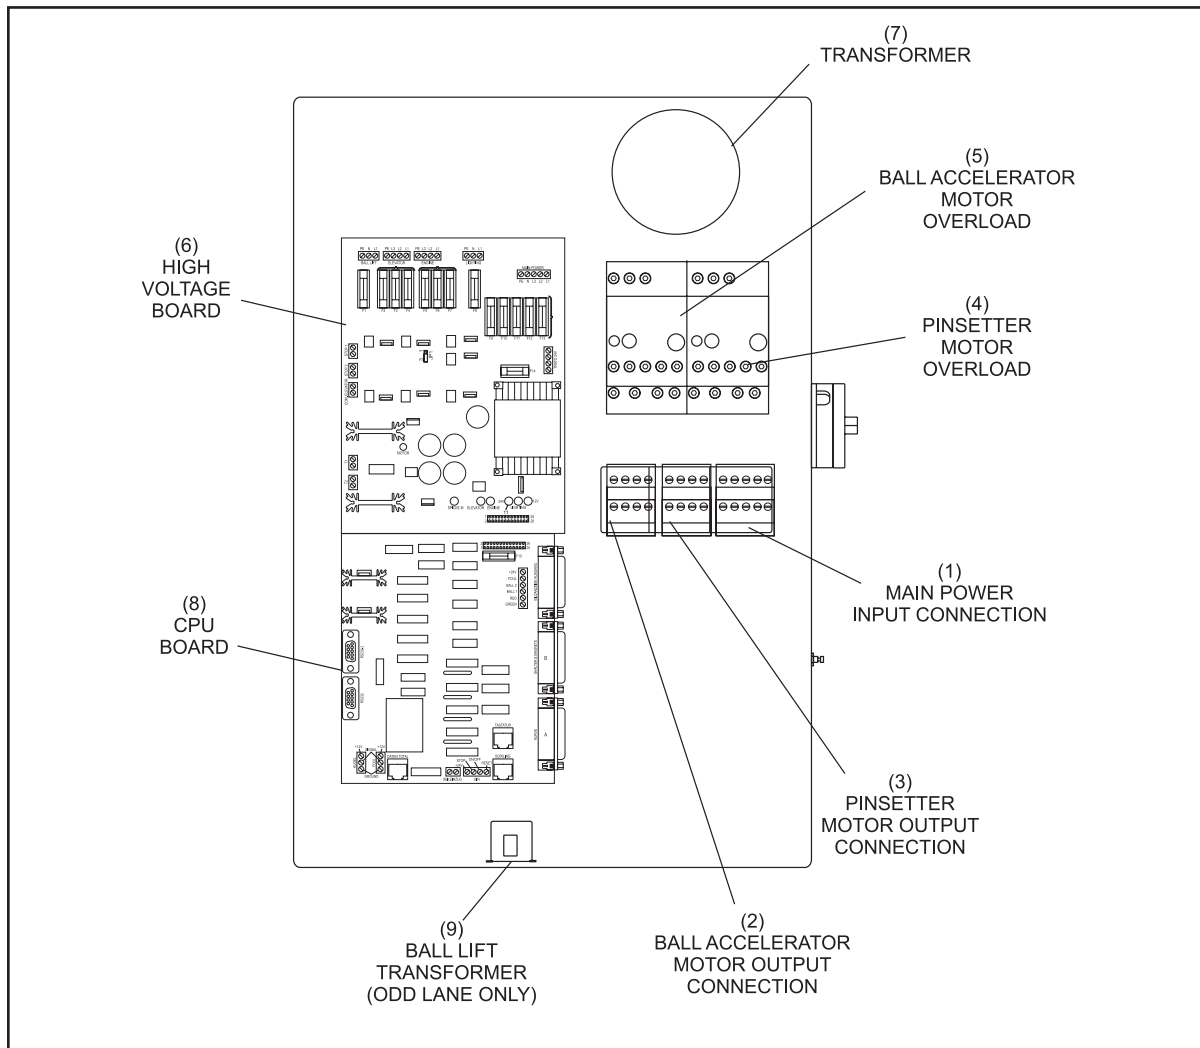

Figure 3-3. StringPin Controller Box - Internal
Internally, the StringPin Controller box contains two circuit boards; a CPU PCB and a High Voltage PCB. Refer to Figure 3-3.
- (19) **Pin Light (Lighting)** - Connection that provides single phase 220/208V power to the pin light.
- (20) **Transformer (Trato 24V)** - This connects to the transformer to convert input power of 380/220/208 to 24 VAC for the PCB
- (21) **Main Power** - Input power connection for the 3-phase power. This voltage can be 208, 220 or 380V AC.
- (22) **Stop Switch 1 (Stop1)** - Connection for the two Stop/Run switches on the pinsetter. The two Stop/Run Switches are connected in series so either can disable the pinsetter.
- (23) **Stop Switch 2 Stop2** - Connection for an optional stop run switch. Normally this connection is shorted (jumped). If this connection is left “open” the machine will not operate.
- (24) **Ball-Lift** - This is a 24V AC supply for the ball lift relays. The output is protected with at 250V 0.1A fast blow fuse. Reference (1) Ball Lift Fuse.
- (25) **Ball Accelerator (Elevator)** - Output for the three phase 380/220/208V power for the accelerator. The wires from this output connect to the Accelerator Motor Overload. *Reference Figure 3-3.*
- (26) **Drive Motor (Engine)** - Output for the three phase 380/220/208V power to the Pinsetter Drive Motor. The wires from this output connect to the Pinsetter Drive Motor Overload. *Reference Figure 3-3.*